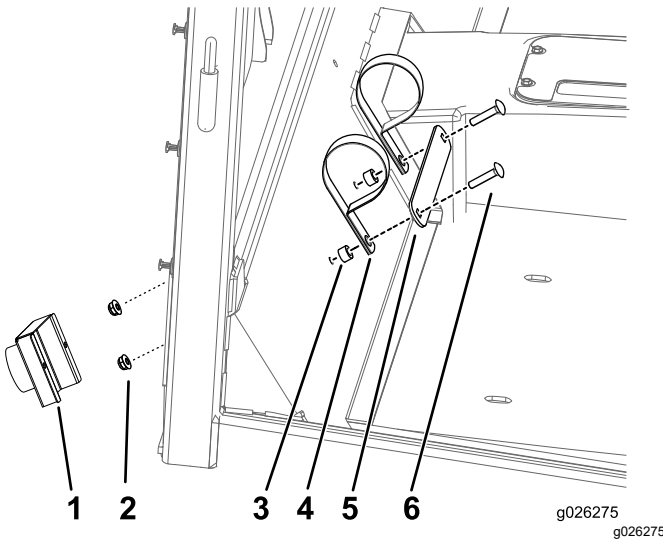

Figure 47
- Install the Operator's Manual tube (Figure 47).